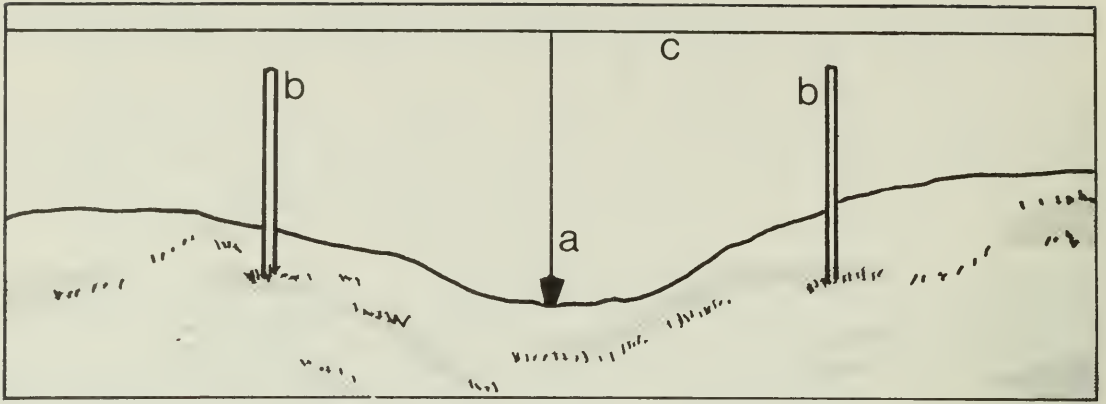

Fig. 20 Use of plumb bob for locating post position in dips: (a) plumb bob, (b) sighting pole, and (c) guide wire.
5. Near the sighting poles in each dip, mark the locations for dip posts either by using a plumb bob (Fig. 20) if you can reach the guide wire, or by sighting using the sighting poles (Fig. 17).